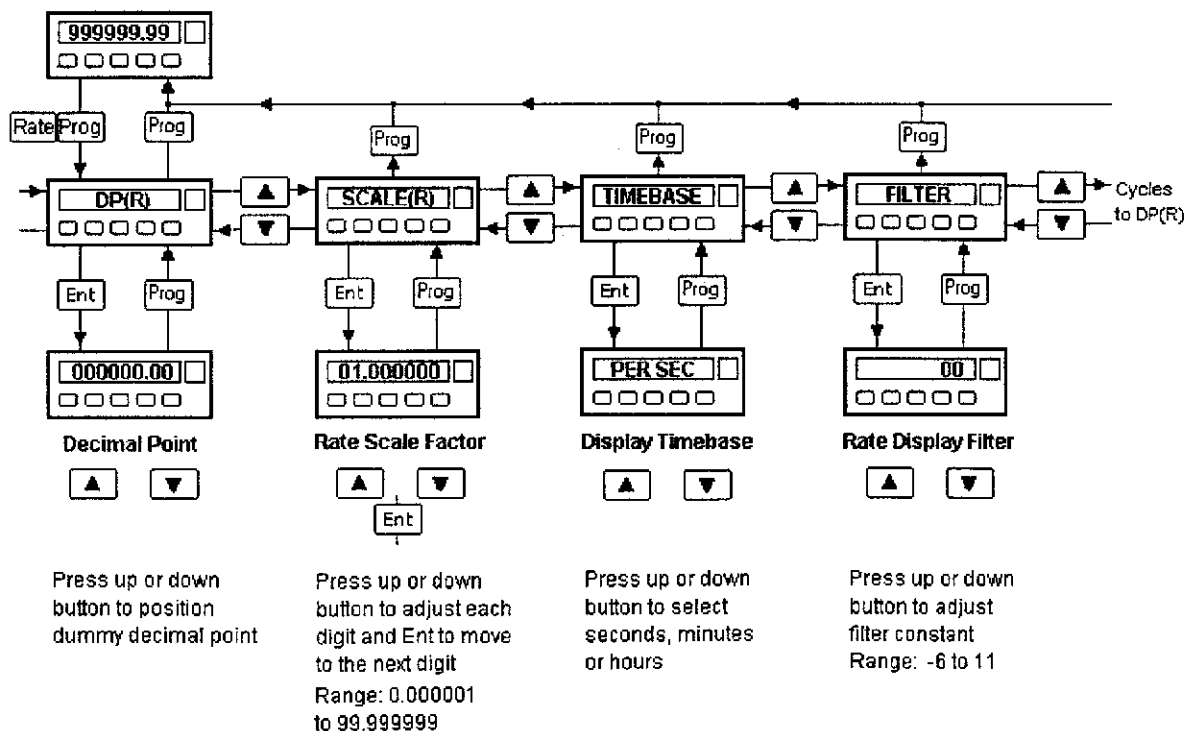

Fig 20 Rate parameter menu
9.5 Rate parameters See Fig 20
Fig 20 shows a diagrammatic representation of the rate parameter menu and the method of moving between the adjustments. Each parameter is summarised below and cross referenced to a full description in a following section.